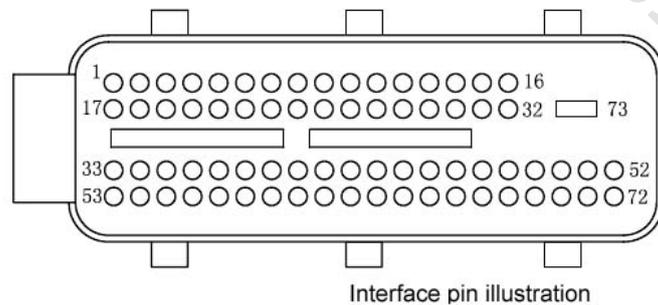

Fig. 1-10
(1) Function: The ECU is the key part of the electronic control system of the engine. The sensors provide various signals to the ECU, and the ECU calculates the signals and sends orders to the actuators like fuel injector, ignition coil etc to control the engine.
(2) Structure: Made by a shielded housing and printed circuit board, many electronic control units integrated on the board to control the electronic injection system.
(3) Installation: Fixed under the instrument panel sundries box with bolt, the double interfaces ECU is adopted.
(4) LF481Q3 engine controller pin (see Table 1-1, Fig. 1-10)